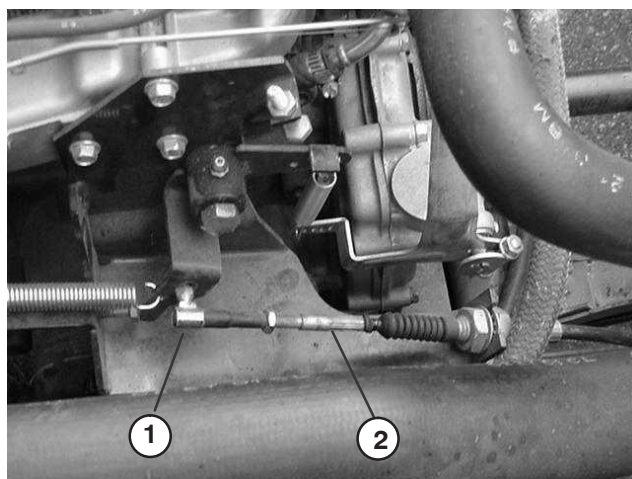

Figure 53
2. Adjust ball joint on accelerator cable (Fig. 53) to allow .200"–.350" of clearance between accelerator pedal arm and top of diamond tread floor plate, when a 20 lb. force is applied to center of pedal. Tighten locknut.